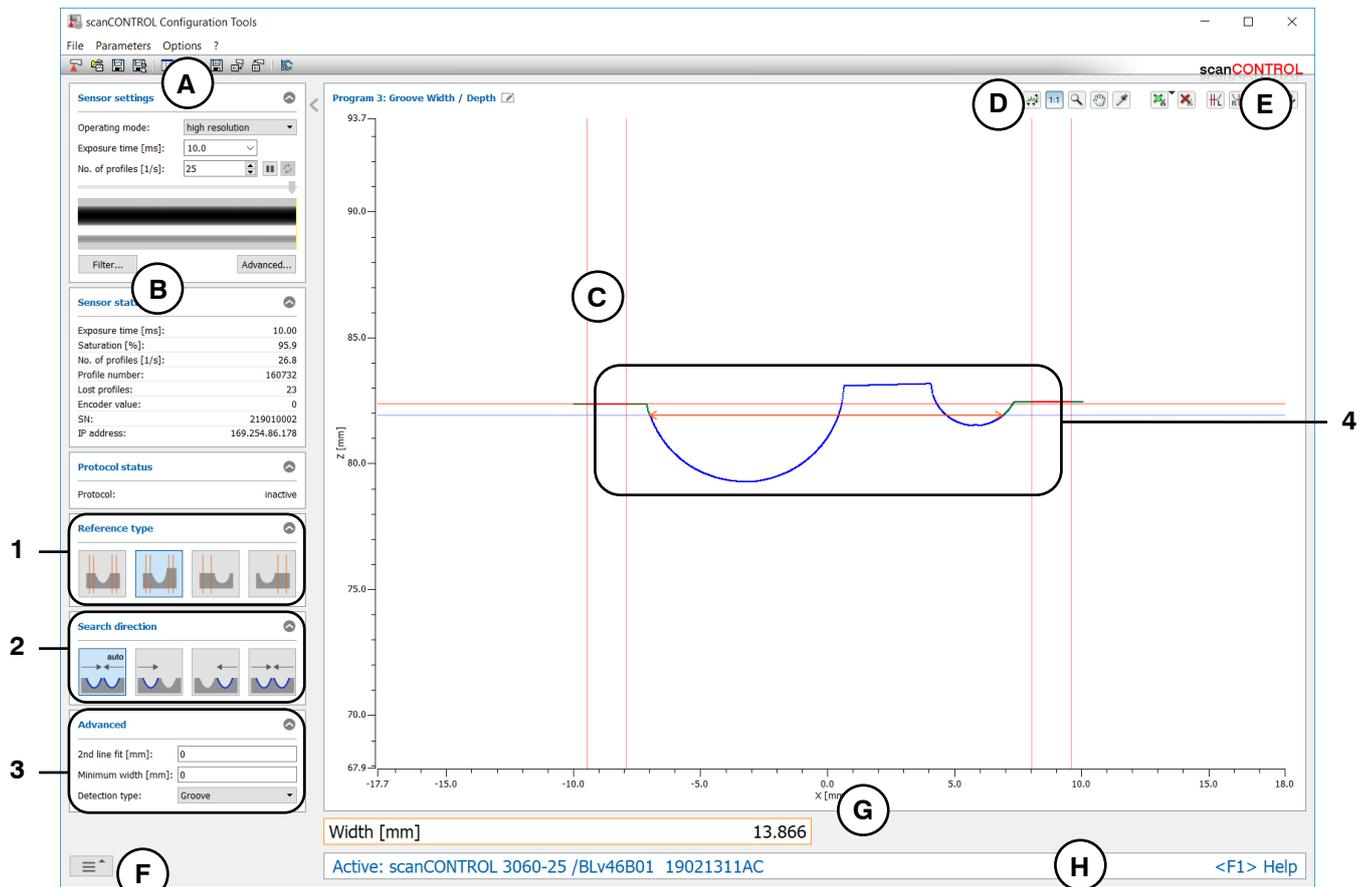

Fig. 4.34: "Groove Width/Depth" measuring program
- Define the type of deepening (see Fig. 4.34 and Chapter 3.13.1):